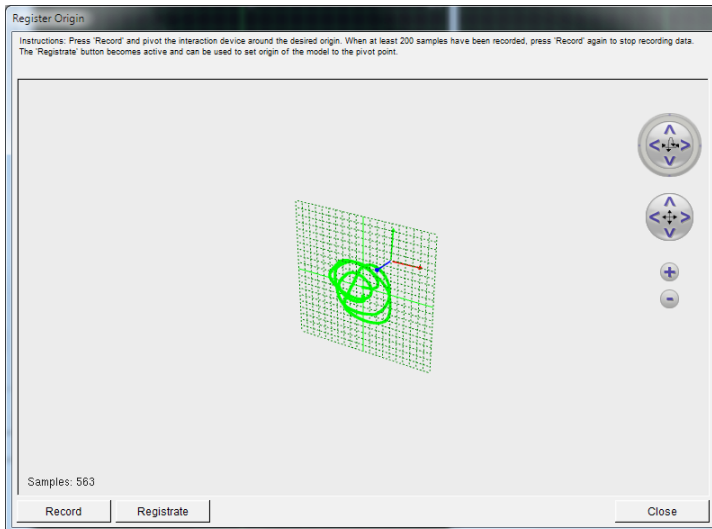

Figure 7.13: Register origin dialog
5. The “Registrate” button will become active (see Figure 7.13). Press this button to calculate a new origin.